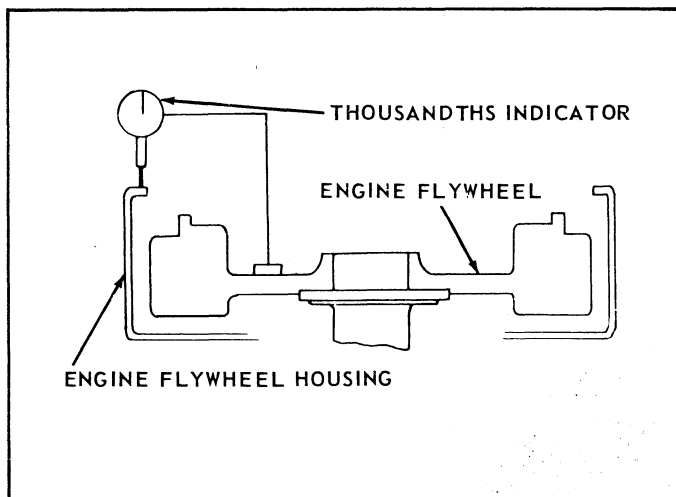

Figure 43. Checking the Driving Ring Surface of the Engine Flywheel.
D. Checking Driving Ring Surface of Engine Flywheel. Bolt a thousandths indicator or gauge to the engine flywheel housing so that the indicator is perpendicular to the engine flywheel, and the indicator stem is riding on the inner face of the flywheel (fig. 43). The variation of face runout of the surface to which the driving ring is bolted should not exceed .0005 inch maximum total indicator reading per inch of diameter.